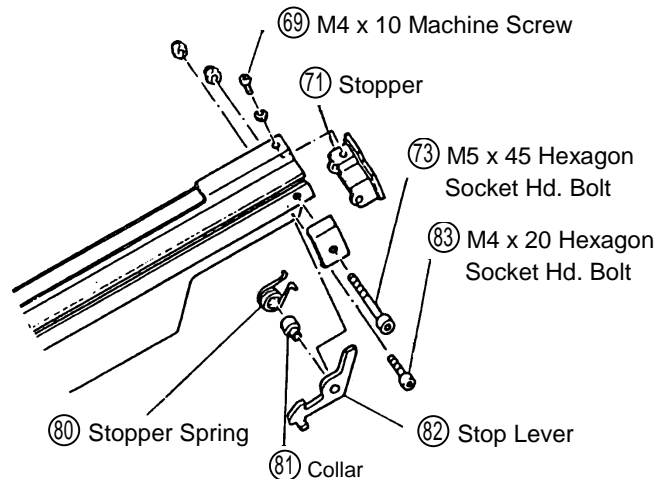

Fig. 17
(a) Disassembly: (See Fig. 17)
- After removing the M5 x 45 Hexagon Socket Hd. Bolt (73), M4 x 20 Hexagon Socket Hd. Bolt (83) and M4 Machine Screw (69), the parts illustrated in Fig. 17 can be taken out.